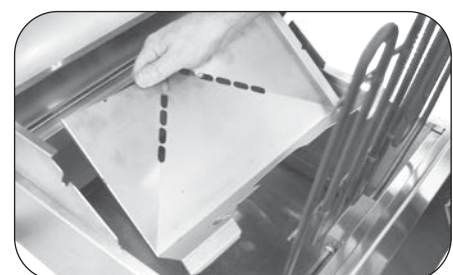

Fig. 22-5 Remove front liner
6. Move the front liner slightly toward the back of the grill, then lift up and out (Fig. 22-5).